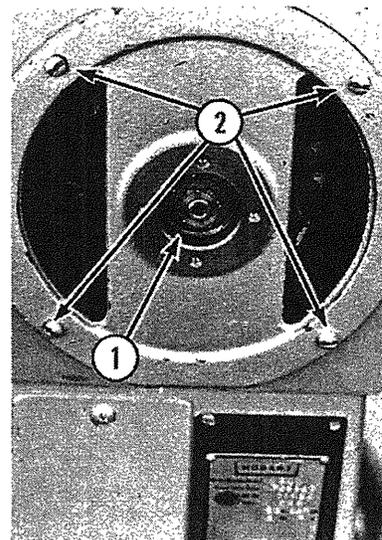

Fig. 8-4
- D. Remove two special nuts and washer (1, Fig. 8-4).
- E. Disconnect the two leads on the stationary start switch on single phase units. Remove four screws (2, Fig. 8-4). Bearing bracket can now be removed leaving the rotor in the stator.
- C. Remove two special nuts and washer (1, Fig. 8-4).
- D. Disconnect the two leads on the stationary starting switch. Remove four screws (2, Fig. 8-4). Bearing bracket can now be removed leaving the rotor in the stator.